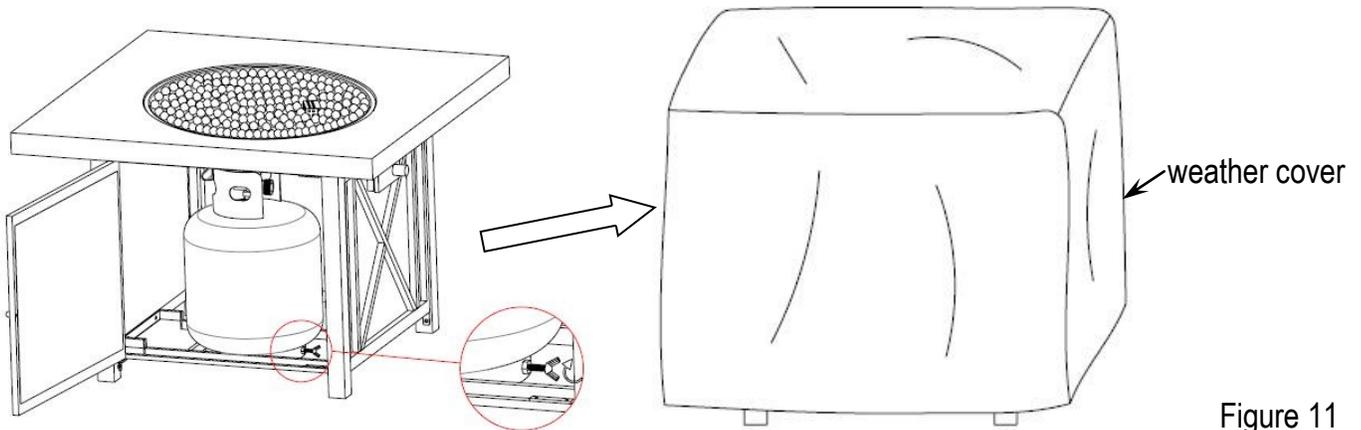

Figure 11
11. Secure the gas cylinder by tightening clockwise the butterfly screw found on the Gas Cylinder Support (L), so that the gas cylinder cannot move from side to side or fall down. Close the Door (D), cover the fire pit with the Weather Cover (N) when not in use to protect it from the elements or when fire pit is cool COMPLETELY after the use (see Figure 11).